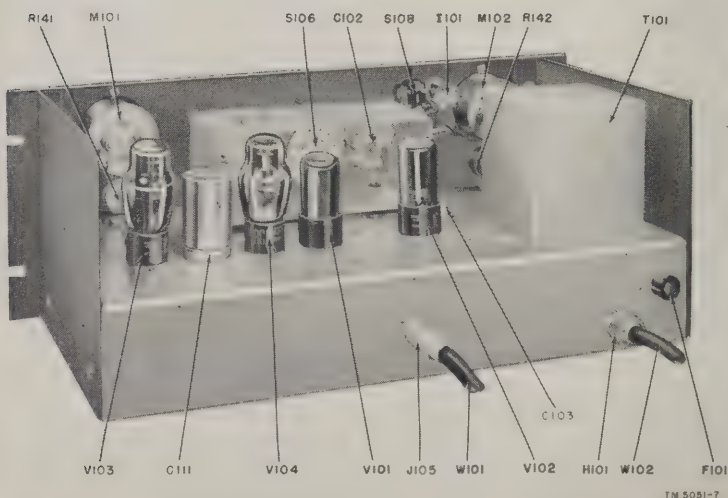

Figure 11. Panel and chassis assembly, rear view.
- (1) The oscillator circuit has a beam power tube V101, 6V6GT, operating as a class *C* amplifier. The feedback paths provided by either the crystal or the decade resistor cause the circuit to operate as a class *C* oscillator. The frequency bands (seven) are selected with the two-section switch S105 by switching the r-f coils L102A, B, and C and L104A, B, and C into the plate circuit, and the corresponding r-f coils L101A, B, C, and D and L103A, B, and C into the grid circuit of tube V101. The frequency range is from 1 to 15 mc. Each band is tuned with a variable dual section (split stator) capacitor C101, TUNING control. Jack J105 (fig. 11) is connected to the plate circuit by means of a capacitive
- (1) Remove the cover from the equipment by removing the No. 6-32 screws around the top, sides, and back.
- (2) Use Tube Puller TS-201 to remove the tubes (fig. 11) from their sockets. If the space around the tube is so limited that the tube puller cannot be used, the tube will have to be pulled out with the fingers; however, first be sure the tubes have cooled sufficiently. Do not rock the tube or jiggle it in its socket if it can be extracted by a direct upward pull. Rock it *gently* if it does not release easily. Jiggling a tube in its socket during removal spreads the contacts. Label each tube as soon as it is removed so that it can be replaced later in its proper socket.
b. FUSE. Remove fuse F101 by turning fuseholder E103 on the back of the chassis (fig. 11) counterclockwise. Pull the cartridge fuse out of the cover.
- (1) The oscillator circuit \* \* \* class C oscillator. The frequency bands (seven) are selected with the two-section switch S105 by switching the r-f coils L102A, B, C, **and D**, and L104A, B, and C into the plate circuit, and the corresponding r-f coils L101A, B, C, and D and L103A, B, and C into the grid circuit of tube V101. The frequency range \* \* \* C101, TUNING control. Jack J105 (fig. 11 **or** 11.1) is connected to the plate circuit by means of a capacitive coupling which consists of a minimum of 2½ turns of insulated wire wound around the plate lead.
- (2) Use Tube Puller TS-201 to remove the tubes (fig. 11 **or** 11.1) from their sockets. If the space \* \* \* its proper socket.
*b. Fuse.* Remove fuse F101 by turning fuseholder E103 on the back of the chassis (fig. 11 **or** 11.1) counterclockwise. Pull the cartridge fuse out of the cover.
Replace the tubes, tube retainers (TS-330/TSM (6883-Phila-51 only)) fuses, and pilot lamp in the CI meter. Be sure the tubes are put back in the correct sockets (fig. 11 or 11.1).
- (4) Unsolder the two connecting wires (tag points) on the underside of the chassis (fig. 11 or 11.1).
- (6) Tag and unsolder wires from the toggle switch S108, pilot lamp E101, and potentiometers R141 and R142 (fig. 11 or 11.1). Remove these components from the panel.